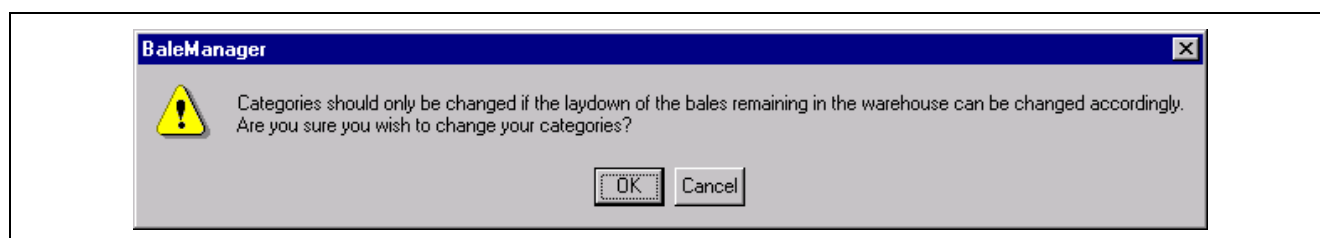

Fig. 6-21 Category Warning Screen
6.3 A warning screen appears that makes you aware of the impact that changing the categories does have (Fig. 6-21).